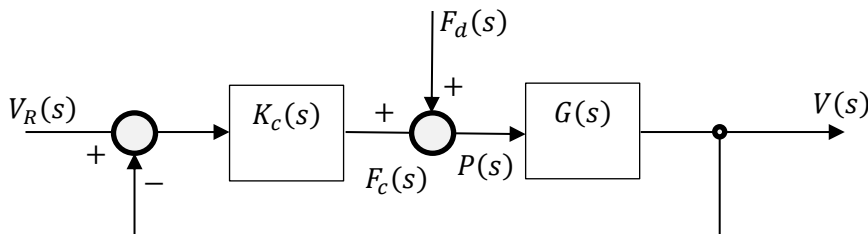

Figure 2.
2. For the system described in Q1, a control system is designed to regulate the velocity of the mass, using a proportional controller,  $K_c(s) = K$ , with a reference velocity  $V_R(t)$ . The block diagram representation of the control system is shown in Figure 2. There are two different forces applied to the mass: the disturbance force,  $F_d(t)$ , and the control force,  $F_c(t)$ .